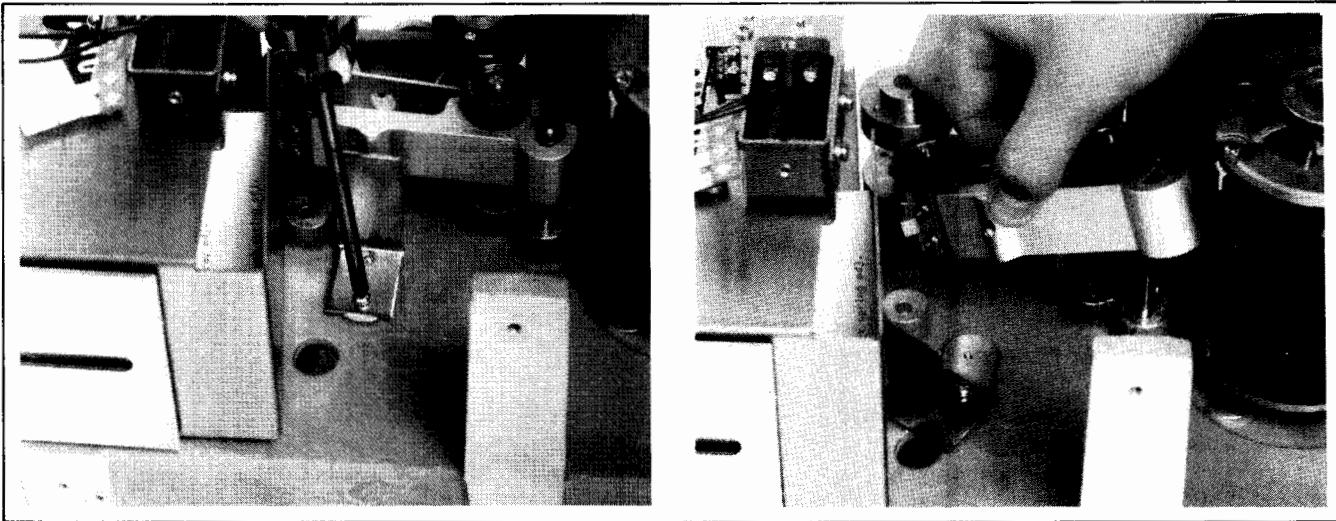

Figure 5-7. Lower Truck Assembly Removal/Replacement
c. Remove upper screw and loosen bottom screw on spring. See Figure 5-7.
d. Turn spring 180° clockwise. Pull lower truck down and out. See Figure 5-7.